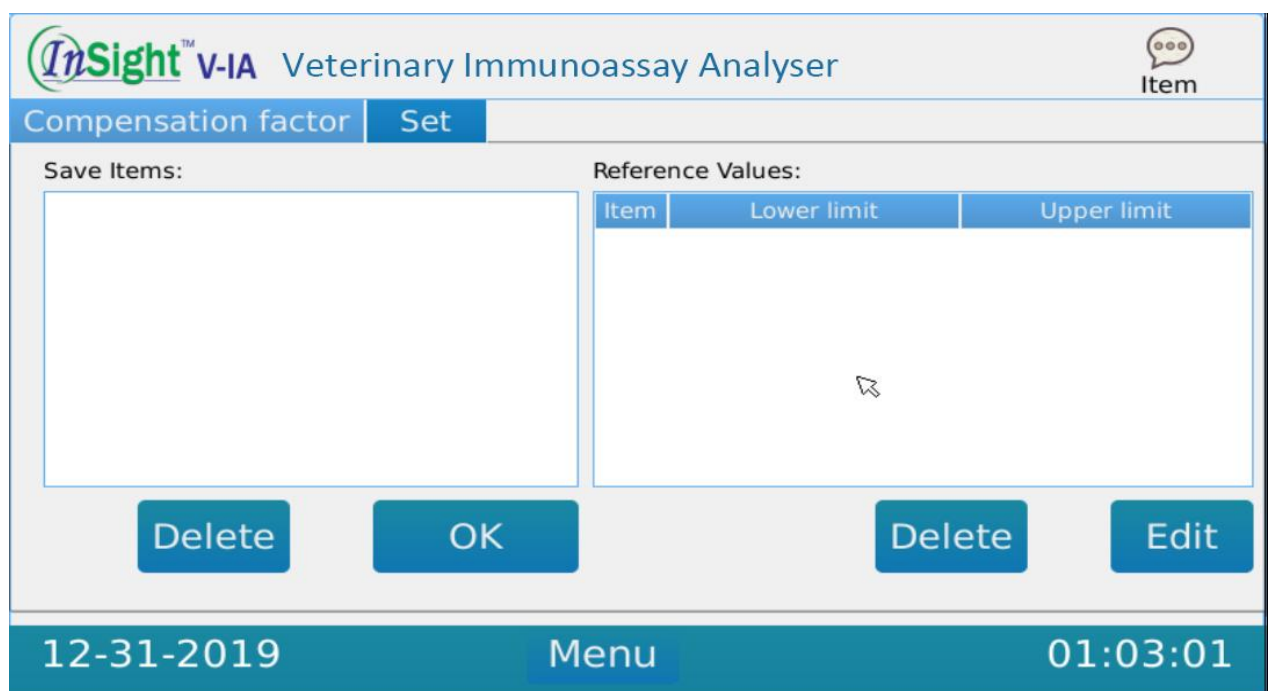

Figure 4.5.1
1. As shown in Figure 4.5.1, saved test lists can be viewed and reference ranges can be set in the [Setting] screen.